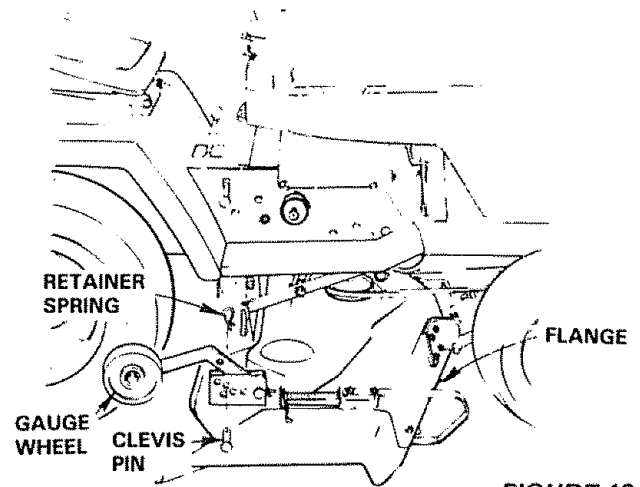

FIGURE 46
- With mower deck at desired height, set gauge wheels (Fig. 46) to lowest position without touching the ground.
- Use clevis pin (Fig. 46) to set gauge wheels at lowest point without touching the ground.